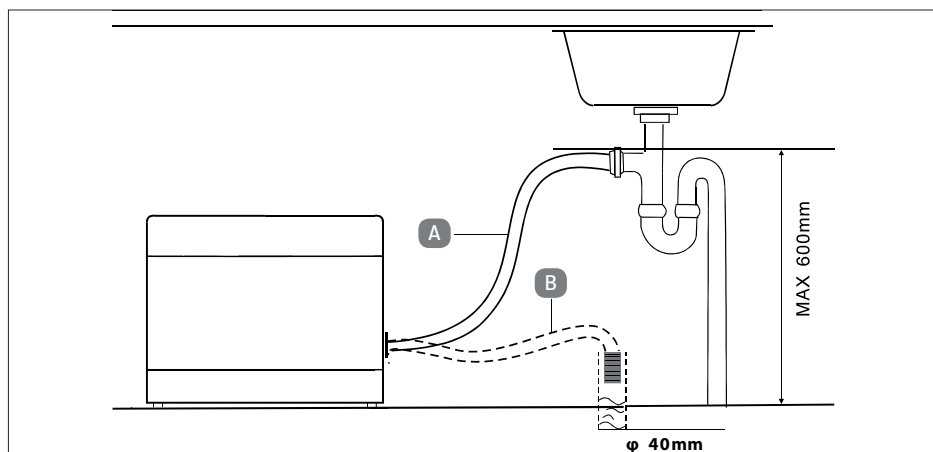

Fig. 6
- Connect the outlet hose with the drain pipe siphon (for washing machines) underneath the sink. Ensure that the waste water hose is inclined sufficiently. The appliance should be positioned at least 4 cm above the drain (see **Fig. 6, A**).
- ▶ You can also feed the outlet hose into a drain pipe. Hook the hose into the drain pipe in such a way that it cannot come loose and the water drains directly downwards unhindered (see **Fig. 6, B**).